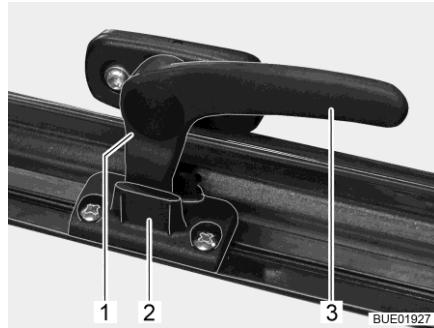

Fig. 14 Catch lever in "continuous ventilation" position
- "Continuous ventilation" (Fig. 14)
- Turn the catch lever (Fig. 14,3) a quarter turn towards the centre of the window.
- Turn the catch lever a quarter turn towards the window frame. The locking catch (Fig. 14,1) has to be moved into the recess of window catch (Fig. 14,2).